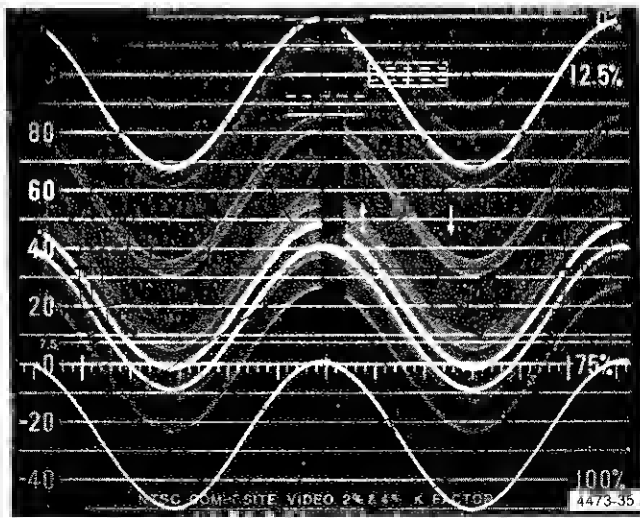

Fig. 5-3. DC Restorer 60 Hz hum response.
c. Display the Color Bar with the 2FLD SWEEP. Connect the output of a 60-Hz sine wave generator to the opposite side of the CH-B LOOP-THRU with a 10X, 75  $\Omega$  attenuator. Disable the DC Restorer. Adjust the amplitude of the sine wave to displace the sync tips by 50 IRE p-p. Select the DC Restorer. See Fig. 5-3.